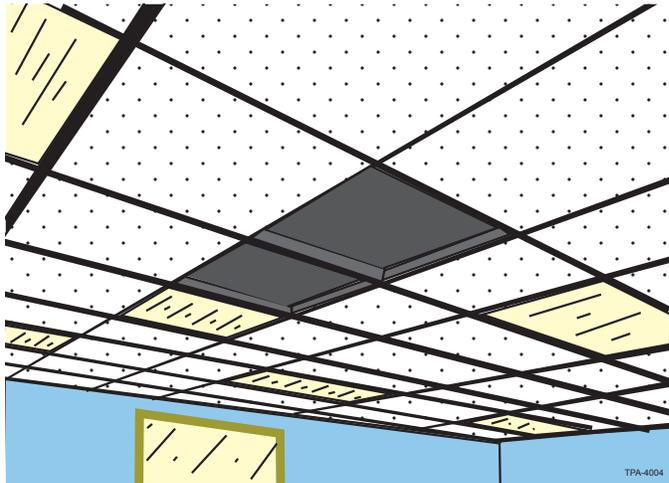

Figure 11
Step 3: Determine mounting location of FZB in the ceiling and remove two ceiling panels or tiles (Figure 11).